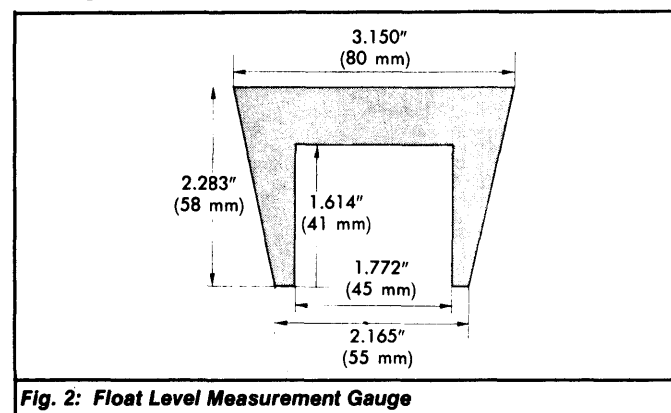

Fig. 2: Float Level Measurement Gauge
- 1) Fabricate float measurement gauge to dimensions shown. See Fig. 2.